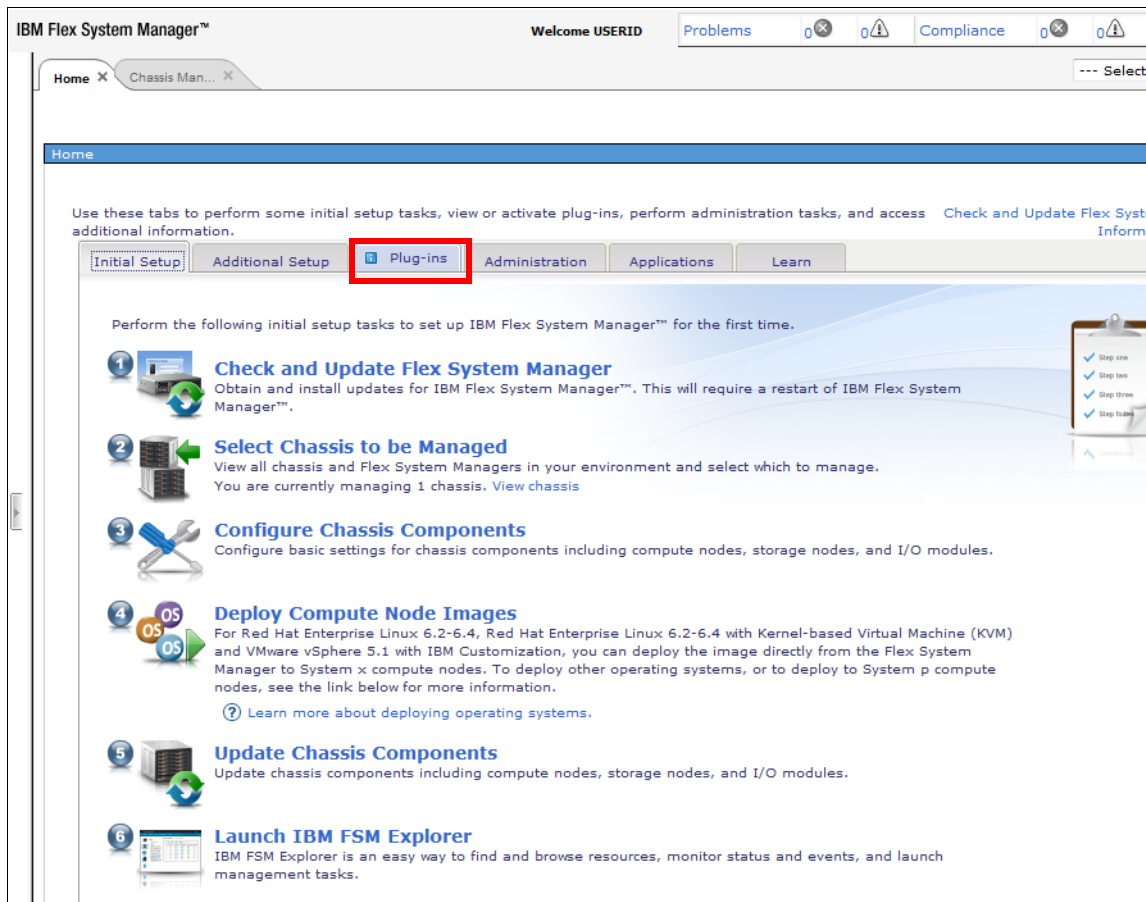

Figure 8-5 IBM Flex System Manager home window
3. Click **Home** and the main window opens, as shown in Figure 8-5.